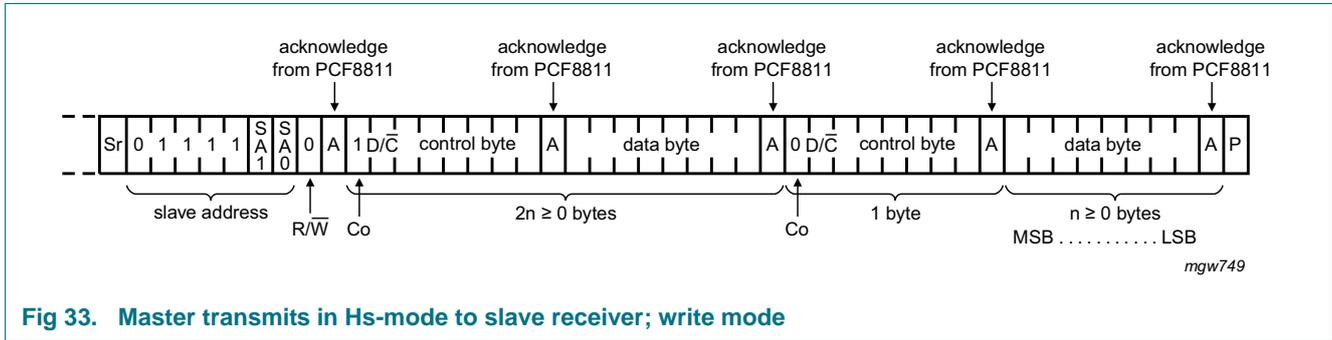

Fig 33. Master transmits in Hs-mode to slave receiver; write mode
A write sequence, after the HS-mode is selected, is shown in Figure 33. The sequence is initiated with a START condition (S) from the I2C-bus master which is followed by the slave address. All slaves with the corresponding address acknowledge in parallel, the remainder ignores the I2C-bus transfer.
After the acknowledgement cycle of a write ( $\overline{W}$ ), one or more command words will follow which define the status of the addressed slaves. A command word consists of a control byte, which defines continuation bit Co and  $D/\overline{C}$ , plus a data byte, see Figure 33 and Table 11.